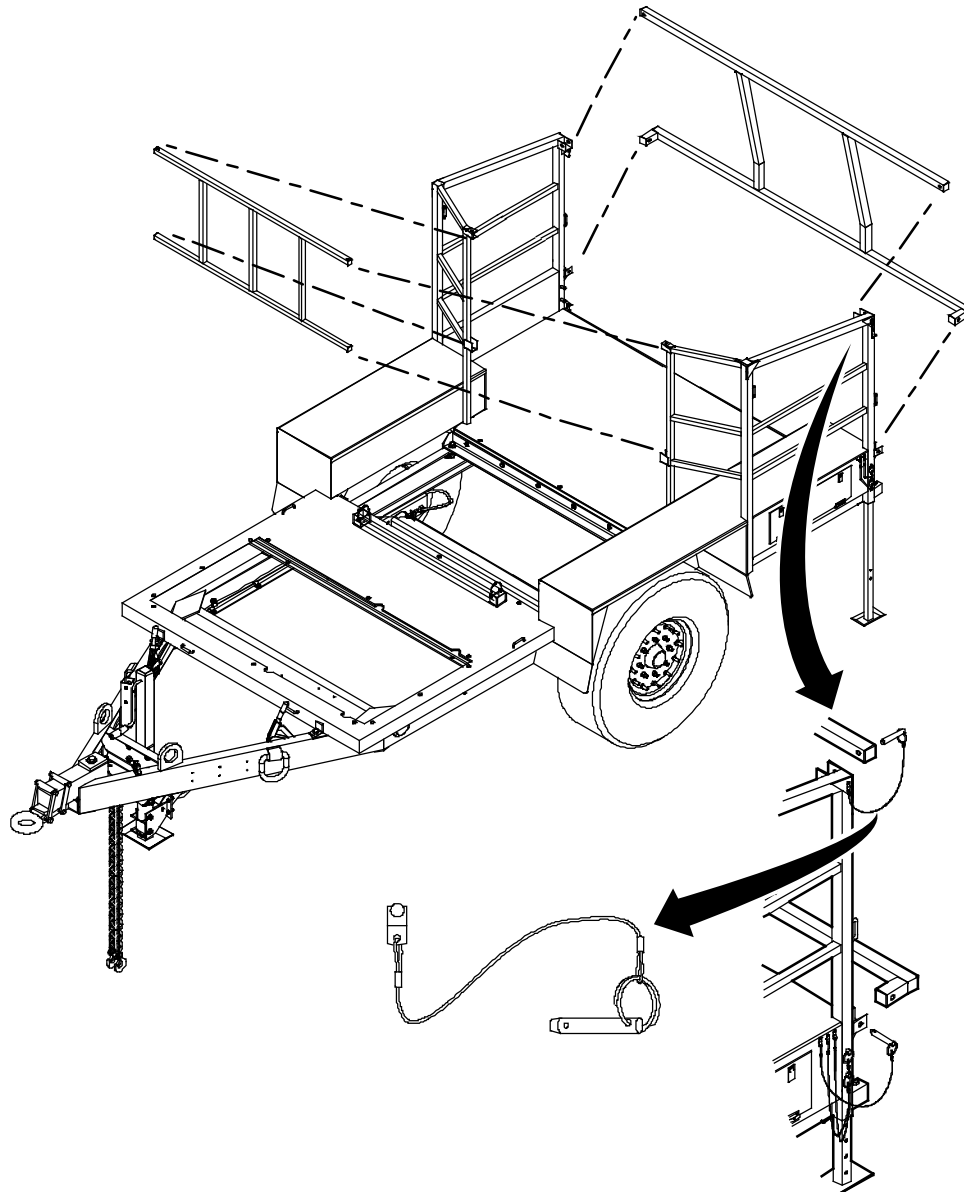

Figure 1. Cargo Restraint Cage Removal/Replacement.
7. Remove retaining pins as applicable to the section of cage that will be replaced, see (Figure 1).
2. Insert retaining pins as applicable to the section of cage being replaced, see (Figure 1).